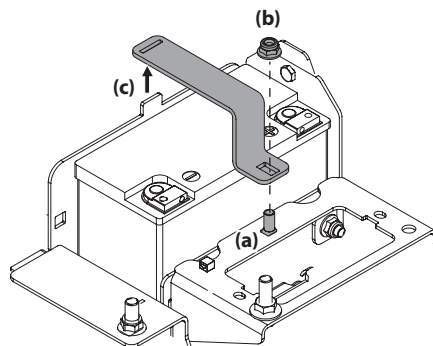

Figure 4-7
4. Locate and hold the carriage bolt (a) at the front of the battery bracket (c) to prevent it from falling. See Figure 4-7.
5. Remove the hex lock nut (b) securing the battery bracket (c) in place. Save the carriage bolt and hex lock nut for later reinstallation. See Figure 4-7.
6. Lift the battery bracket (c) off of the tab at the left side of the battery compartment and save for later reinstallation. See Figure 4-7.